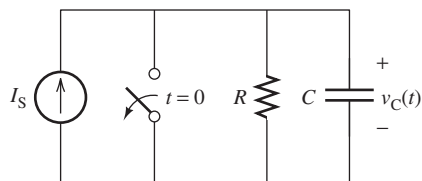

FIGURE P5.10 Circuit for Problem 5.10.
- 5.10 (A) Find an expression for $v_C(t)$ in Figure P5.10. The switch is opened at $t = 0$.